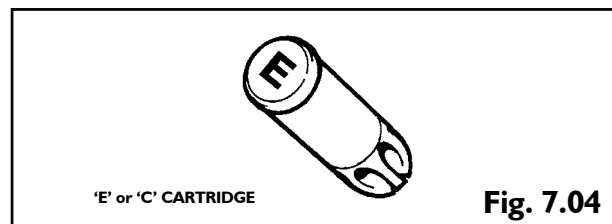

Fig. 7.04
- ▶ Only use the correct grade of CASH cartridge bearing the “E” or “C” headmark, as shown in Fig. 7.04